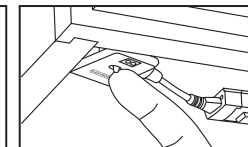

FIG. 3
This lighting system is equipped with an optional auto shutoff timer switch that will power the unit off after three (3) hours. To activate, switch to the "on" position. To disable, switch to the "off" position. (See FIG. 3)